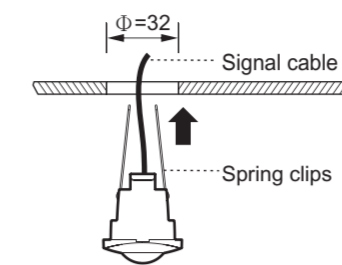

FIG.15
3.3.3 Put detector's two spring clips into the drilled hole, then insert detector upwards (See FIG.15).